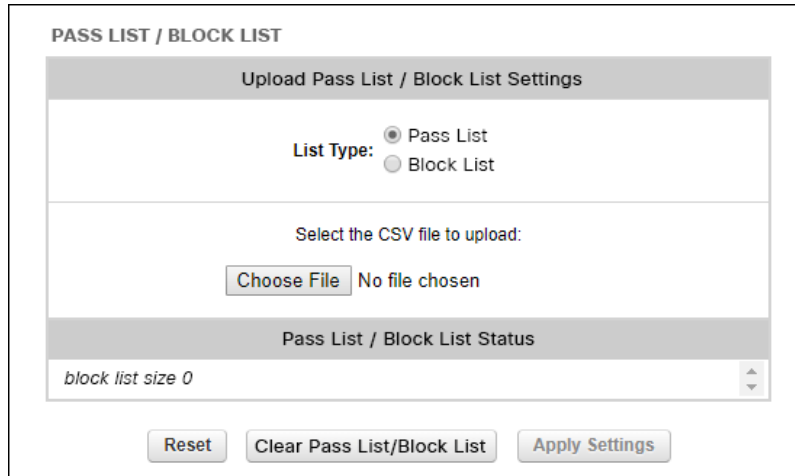

Figure 36. Configurator (Pass list / Block list dialog)
- The **Pass list / Block list** dialog will be shown (Figure 36 \(page 75\)).